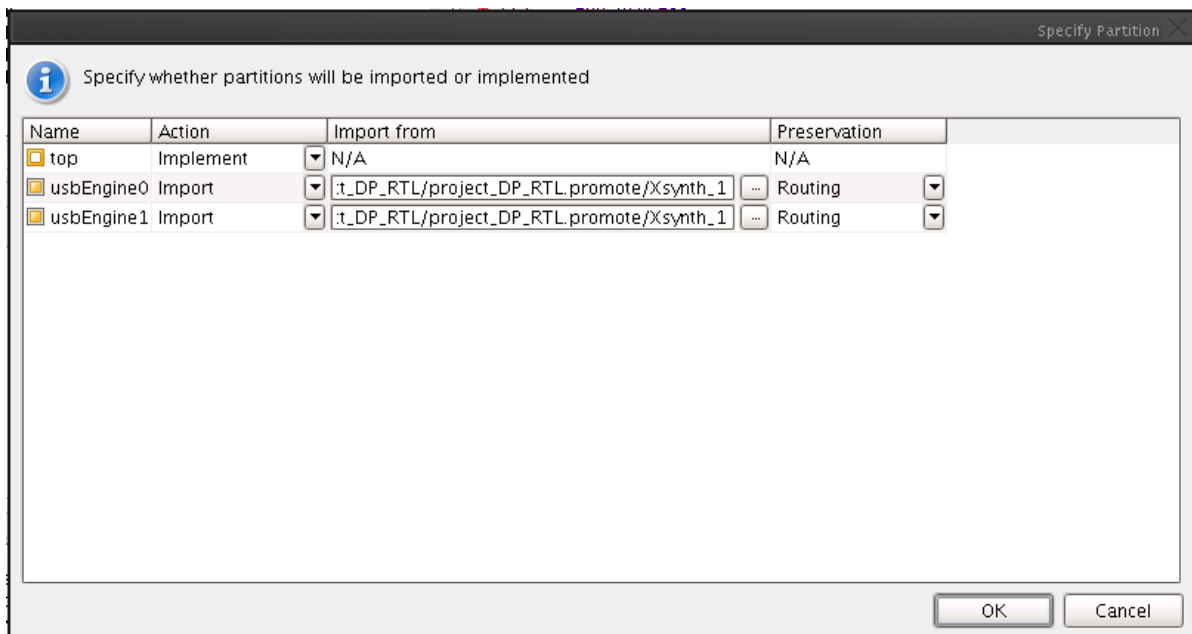

Figure 1-15: Verifying Partitions Attributes
2. From the **Synthesis Settings** dialog box, click the **Specify Partitions** button to open this window (Figure 1-15).